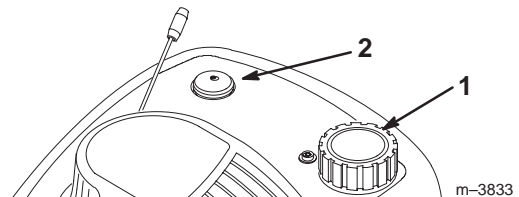

Figure 6
6. Clean around the fuel cap (Fig. 6).
3. Push the primer three times (Fig. 6). Wait about two seconds between each push.